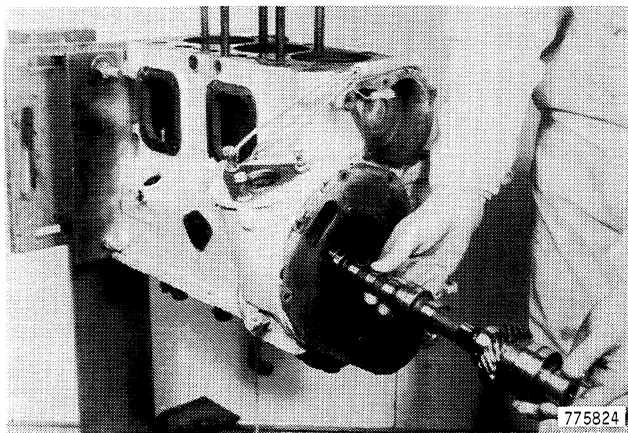

Figure 78
13. Pull cam shaft from cylinder block, Figure 78.